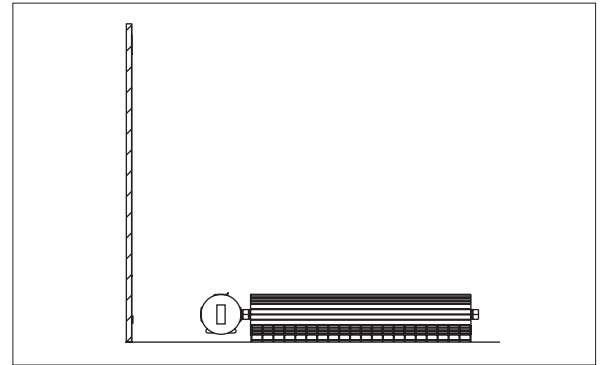

Figure 5 – Floor mounting diagram
Step 1: Position heater face down on the floor with terminal box towards the wall (Figure 5, page 4).